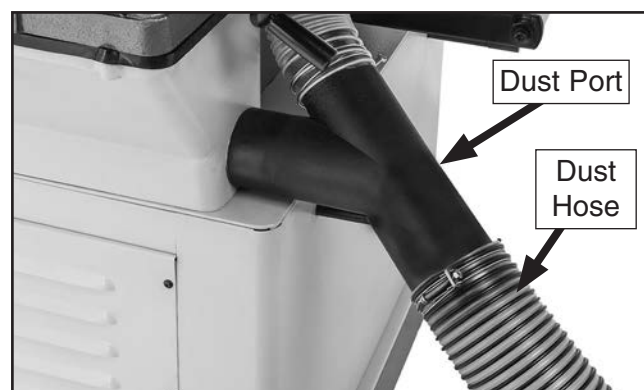

Figure 20. Dust hose attached to dust port.
1. Fit 4" dust hose over dust port, as shown in **Figure 20**, and secure with included wire hose clamp.